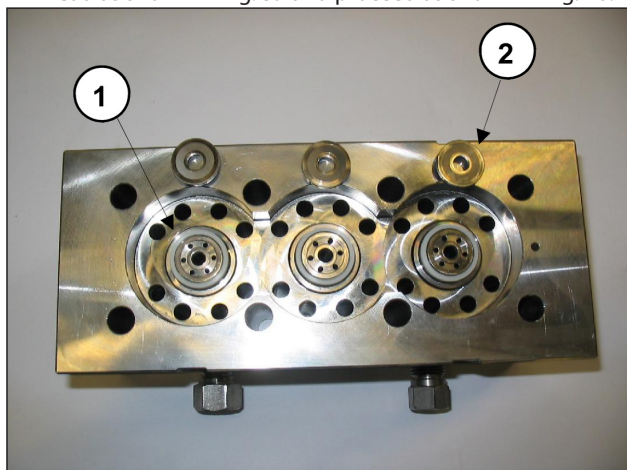

Fig. 41
When removing the liners, take care not to lose the valve seats ① and the flat valves ② as shown in Fig. 41 which, being only laid down, could fall.